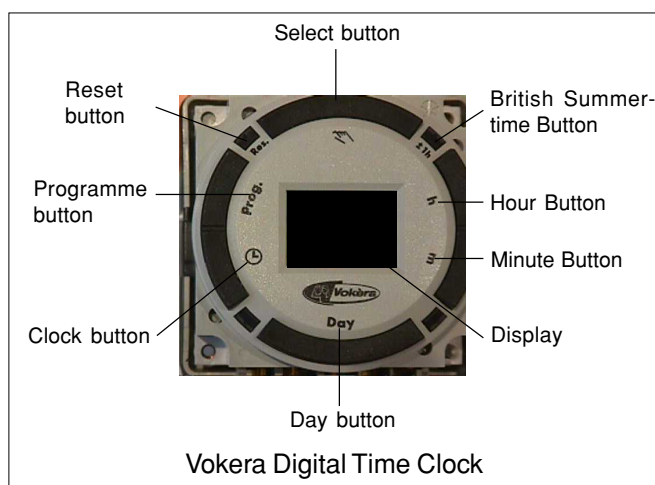

Fig. 2
- press and hold the button (see fig 2)